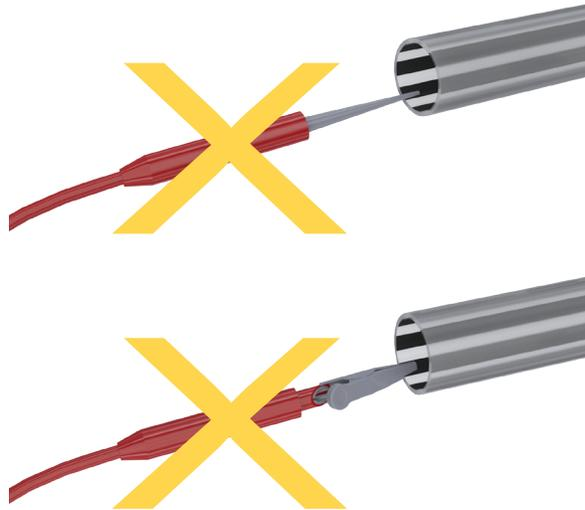

Figure 7.
**⚠ WARNING:** It is not recommended to use probes or alligator clamps directly on the tubing for continuity testing. Figure 7.